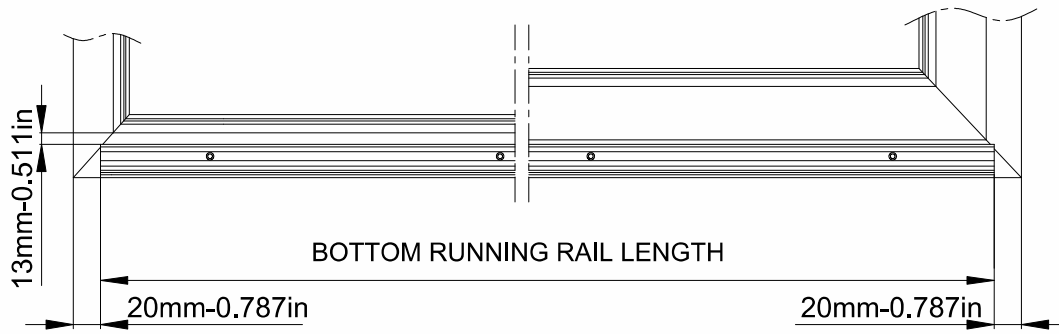

FIGURE.1
- a- Cut length of bottom running rail equal to that 40mm-1.574in shorter than frame length as shown in Figure.1
- a- Calculate rod length by means of the formulation in Figure.1 and cut pursuant to the measure obtained.